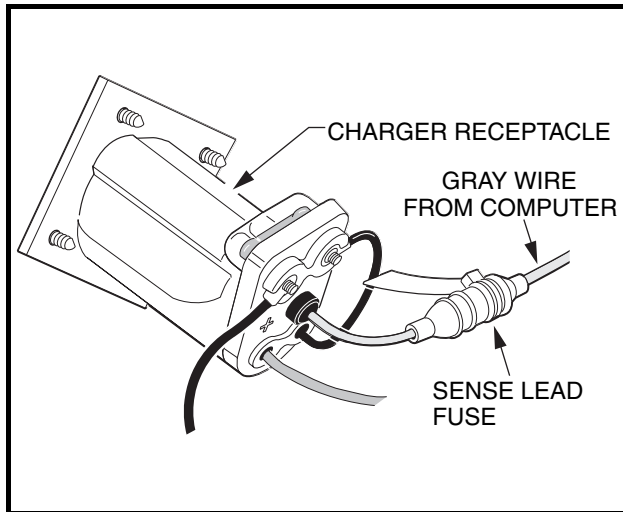

Figure 5-8 Receptacle Wire Connections
- 3.4. Make sure the two nuts that secure the two 10-gauge black wires to the receptacle fuse assembly are tight (**Figure 5-8, Page 5-15**).